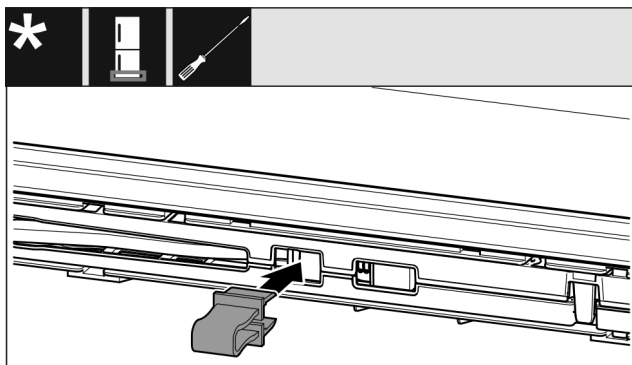

Fig. 15
- ▶ Latch safeguard into opening. (see Fig. 15)